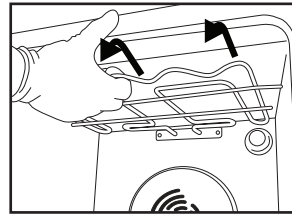
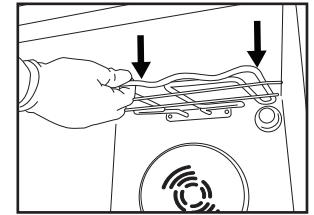

Fig. 1
Fig. 2
2. Pull the heating element out a little ( Fig. 1 ) and lower it ( Fig. 2 ).